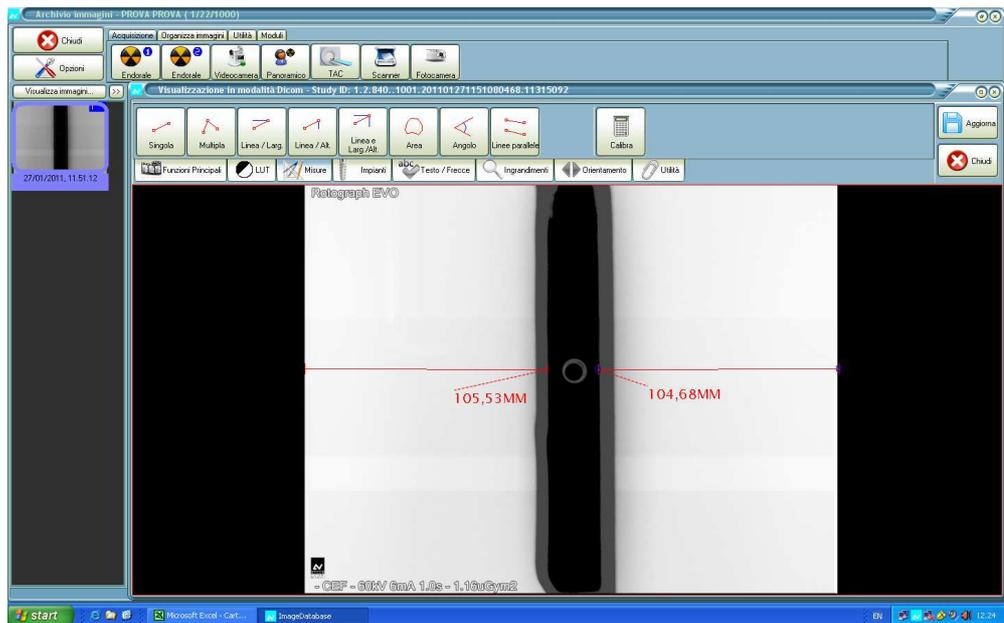

Figure 9-25
23. Measure the distance between the borders of the image and the borders of the central vertical stripe (Figure 9-25).